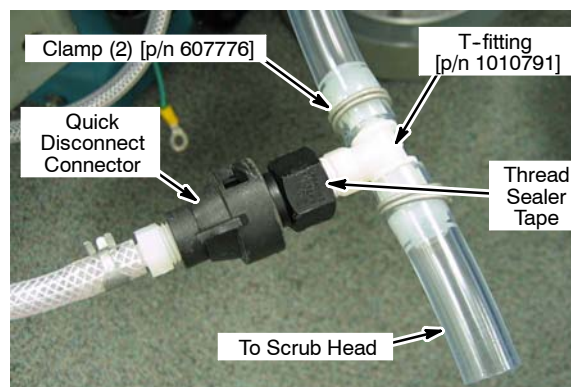

Fig. 46
15. Using T-fitting [p/n 1010791] and two wire clamps [p/n 607776], connect the quick disconnect connector from the *ec-H2O* solution hose assembly to the solution tank outlet hose as shown (Figure 46). Use a thread sealer tape.